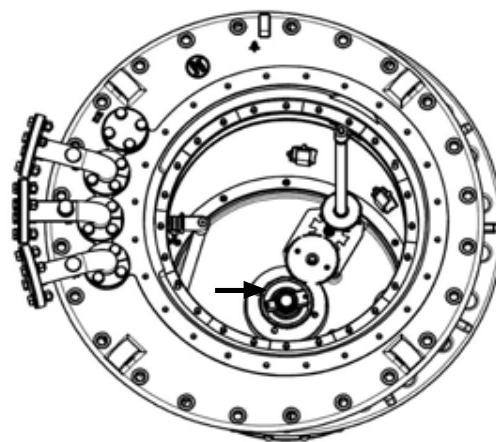

Figure 24 Remove the oil suction pipe switch insert
- 7) Pull out the pipe joint inserted in the tap-changer head flange, and disassemble the oil suction pipe (Figure 24).